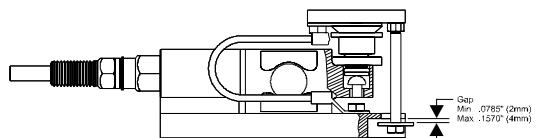

FIG. 22: ADJUSTING ANTI-LIFT OFF DEVICE
- Step 1. Use a box end wrench to loosen the adjustment hex nut that fastens the Anti-Lift Off Device to the top plate. (See Fig. 22)
- Step 2. Adjust the hex screw with your fingers or box-end wrench until the gap between the base plate and washer are between .0785" (2mm) and .1570" (4mm). (See Fig. 22)